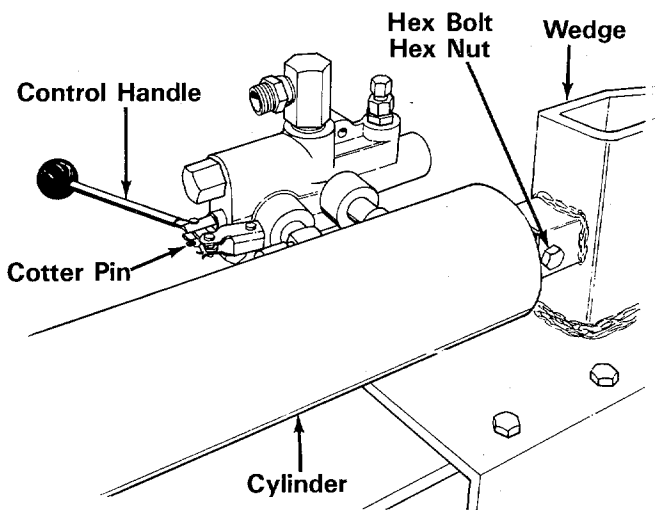

FIGURE 10
3. Remove the large hex bolt, lock washer and hex nut on the end of the wedge assembly. Secure the other end of the cylinder assembly with the hardware just removed. See figure 10.
The bottom of the control handle is already attached to the valve with a cotter pin. Remove the second cotter pin which is attached to the valve only. Place the handle in position and secure using the second cotter pin. See figure 10.